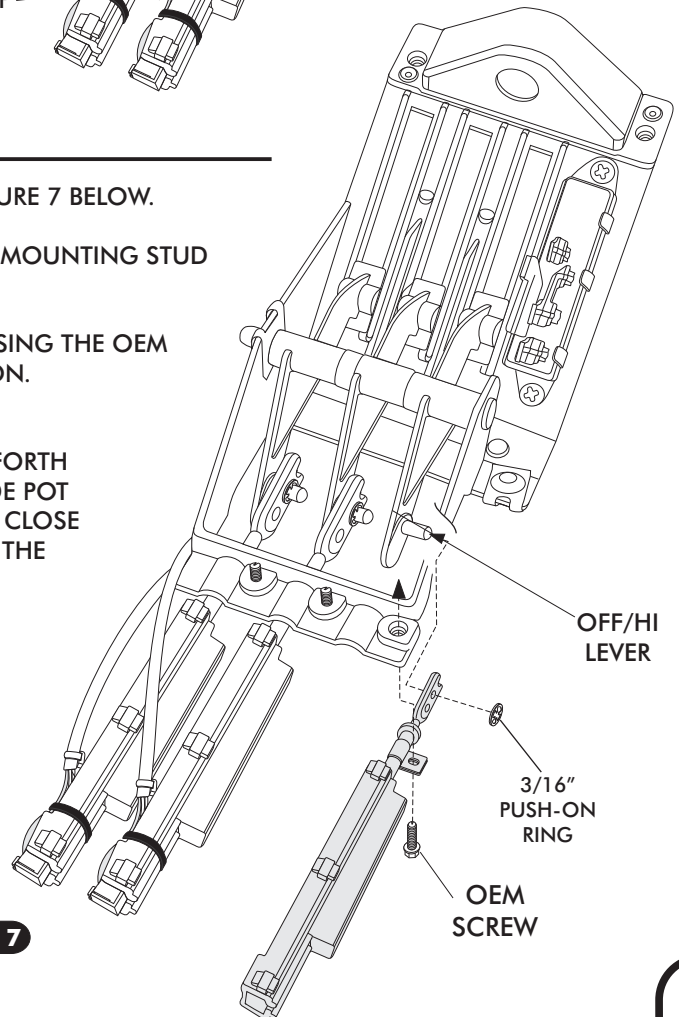

FIGURE 7
- INSTALL SLIDE POT ASM ON THE OFF/ HI LEVER. SEE FIGURE 7 BELOW.
- INSTALL SLIDE POT LEVER PUSH ROD ONTO OEM CABLE MOUNTING STUD ON LEVER. SEE FIGURE 7 BELOW.
- SECURE THE SLIDE POT ASM TO THE CONTROL PANEL USING THE OEM SCREW IN THE OEM CABLE CLAMP MOUNTING LOCATION. SEE FIGURE 7 BELOW.
- SECURE SLIDE POT LEVER PUSH ROD ONTO OEM CABLE MOUNTING STUD USING 3/16" PUSH-ON RING AS SHOWN IN FIGURE 7 BELOW.